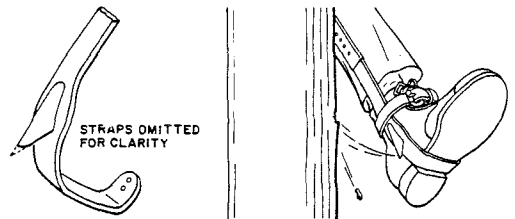
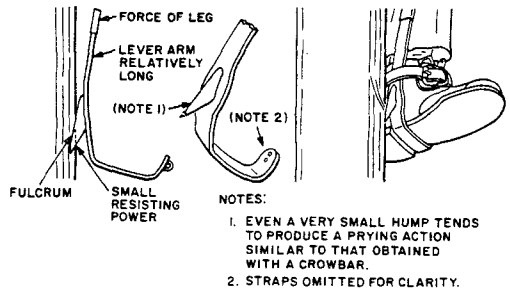

Fig. 12—Dull Gaff
Fig. 13—Gaff Ridge and Point Altered
5.06 Figures 12 and 13 show two of the principal causes of climber cutout due to unsatisfactory gaff conditions. A dull point or dull cutting edges results in insufficient gaff penetration as shown in Fig. 12 causing the resultant cutout. If the straight ridge of the gaff is altered as indicated in Fig. 13, a prying action is produced that will cause climber cutout. Under no circumstances should any part of the gaff be altered by filing. Proper field maintenance of factory shaped gaffs is described in Part 7.